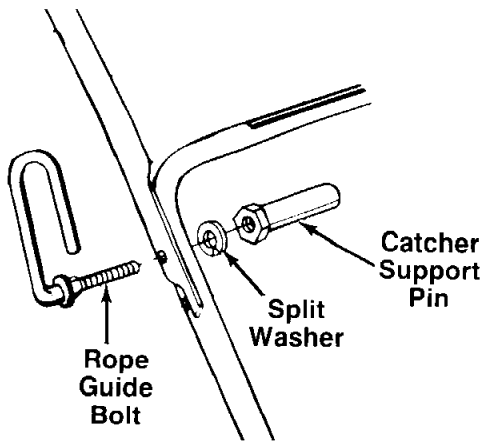

FIGURE 3.
3. Insert the rope guide bolt through the right hand side of upper and lower handle. See figure 3. Secure with split washer and catcher support pin, finger tight only.